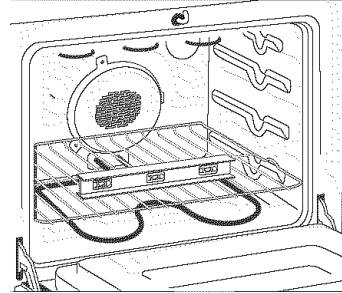
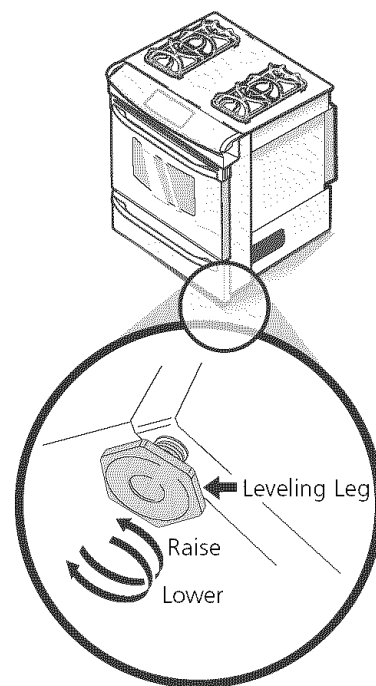

Figure 10
Figure 16
3. Check if the range is level by installing an oven rack in the center of the oven and placing a level on the rack (Figure 10)
2. Place a level on the rack (see figure 10). Take 2 readings with the level placed diagonally in one direction and then the other. Level the range, if necessary, by adjusting the 4 leg levelers with a wrench (see figure 16).